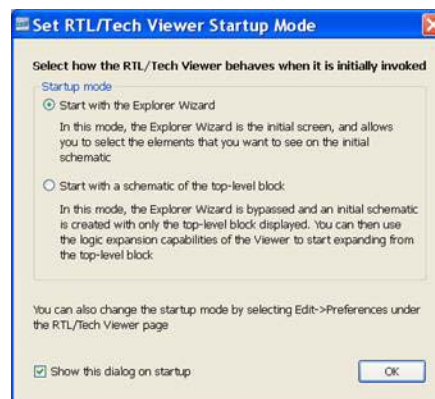

Figure 4-2: Set Viewer Startup Mode
2. Select the Start with the Explorer Wizard startup mode as shown in Figure 4-2.